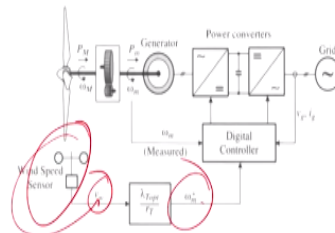

Fig.6: Optimal TSR control of wind turbine
- The principle of this control scheme is shown in Fig.6, where the measured wind speed  $v_w$  is used to produce the generator speed reference  $\omega_m^*$  according to the optimal tip speed ratio  $\lambda_{opt}$ .
The principle of the control scheme is shown in the figure 6, where the measured wind speed  $v_w$  is used to produce the generator speed reference accordance to the optimal tip speed ratio of  $\lambda$ . The generator wind speed  $v_m$  is controlled by the power converter and will be equal to the reference in in steady state at which the MPPT is achieved.